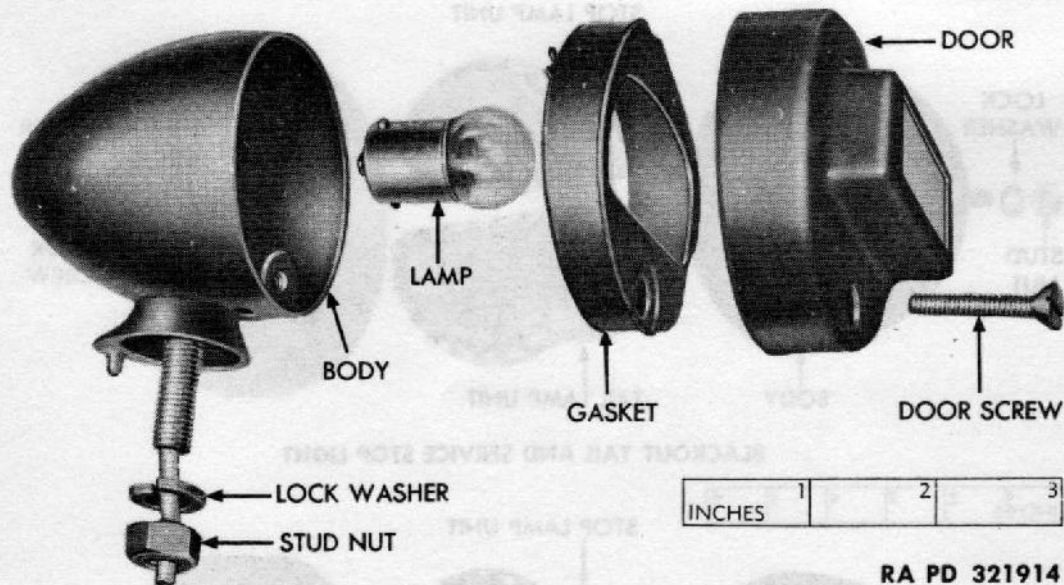

Figure 69 - Blackout Parking Light
(1) **DESCRIPTION** (fig. 69). Two blackout parking lights are mounted—one on each side—on the brush guard at front of the vehicle. The lens in the door of the light is covered except for two small translucent triangular portions. The door is shaped so that triangles are visible only from a straight-ahead position; thus no beam is cast, and light serves only as a marker. Light contains a conventional single-contact socket.
b. Replace Lamp (fig. 69). Remove screw which secures door to body. Remove door. Turn lamp and pull from socket. Push new lamp into socket and turn. Position door to body, and secure with door screw.
c. Removal (fig. 69).
d. Installation (fig. 69).